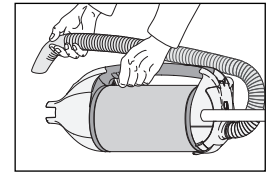

Figure 9
Detachable Suction Unit - Figure 9
When detached from the power head, or floor tool, the DART transforms itself into a lightweight, powerful suction unit, which can be carried around using its comfortable carrying handle (figure 9). Ideal for cleaning stairs, car interiors or upholstery. To remove a floor tool or power head, switch off the power and unplug the vacuum. Press the tool release button (14) and pull the vacuum out of the power head neck (20).